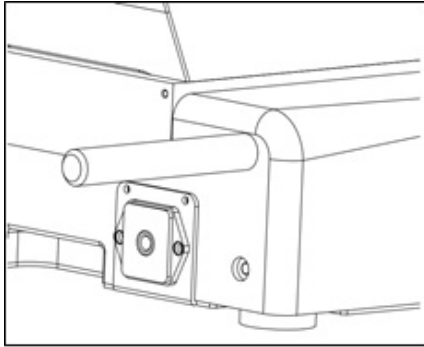

Fig. 14
1. Insert the power cord into the socket ① on the rear of the microscope safely. The other end plugs into the socket of wall or power strip.(Fig.14)